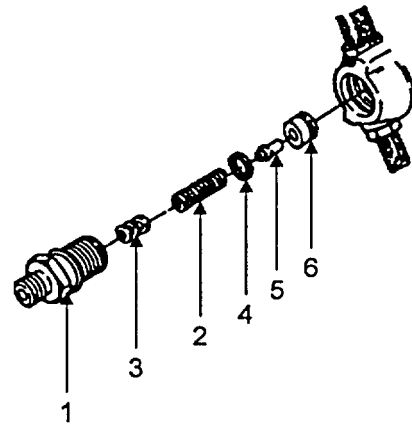
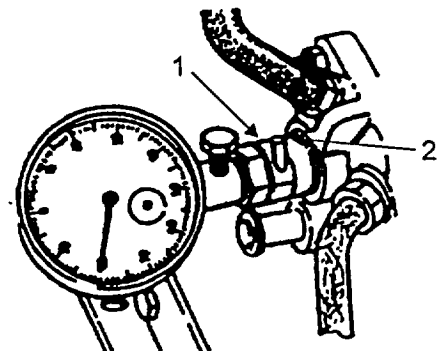

FIGURE 5-5. DELIVERY VALVE HOLDER
FIGURE 5-6. FUEL PUMP AND SPILL DEVICE
- g. Unscrew delivery valve holder (Figure 5-5, Item 1) and remove spring (2), filling piece with shims (3), copper washer (4), delivery valve (5), and valve body (6).
- h. Insert copper washer (4) and delivery valve body (6) only into spill device 66503001.
i. Thread spill device 66503001 (Figure 5-6, Item 1) into injection pump with spill pipe (2) in the up position, and then secure in place.